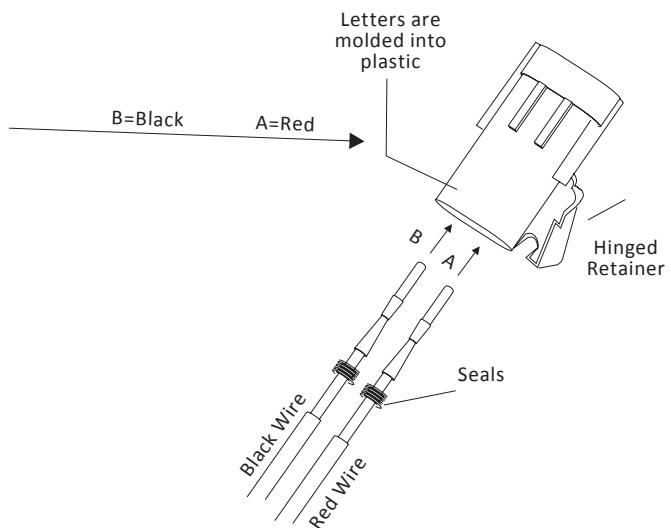

Figure 4-6
6. The connector is marked with an A and B. The A side is for the Red wire and the B side is for the Black wire. If wires are connected incorrectly, the lift will not operate correctly. **See Figure 4-6.**